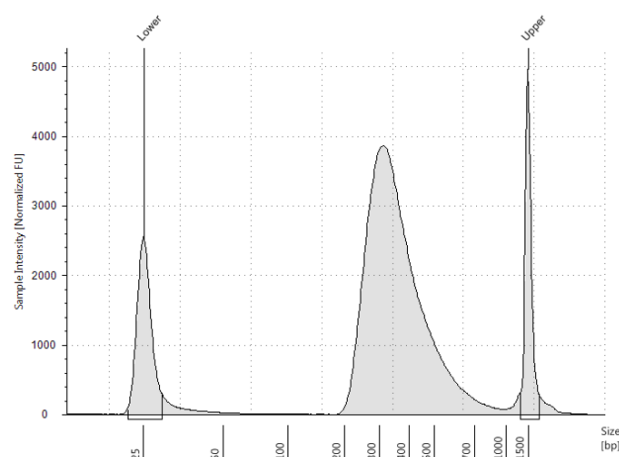
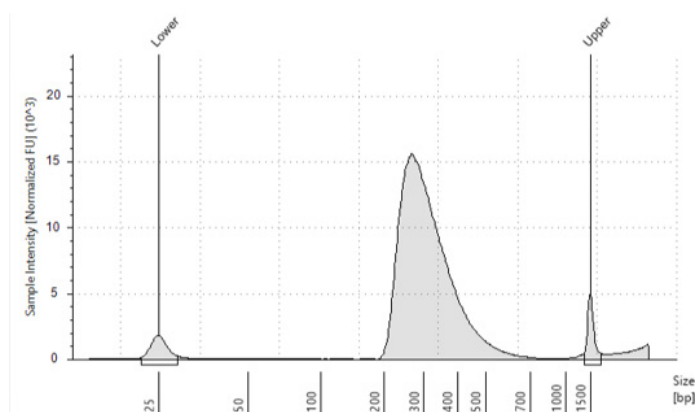
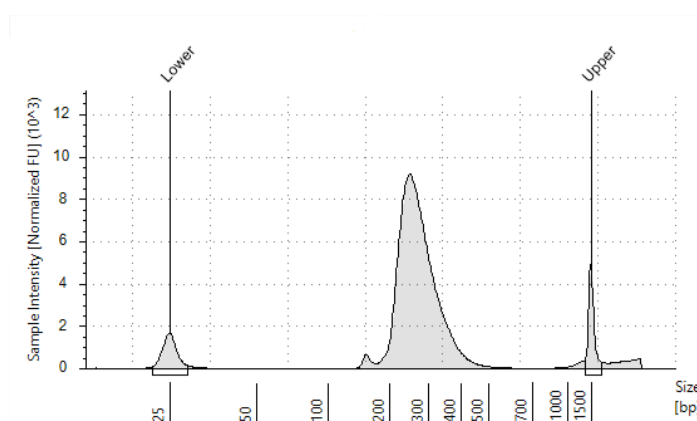

Figure 8 Pre-capture library prepared from a high-quality gDNA sample analyzed using a D1000 ScreenTape assay.
Figure 9 Pre-capture library prepared from a typical FFPE gDNA sample analyzed using a D1000 ScreenTape assay.
Figure 10 Pre-capture library prepared from a low-quality FFPE gDNA sample analyzed using a D1000 ScreenTape assay.
- 16 Verify that the electropherogram shows the expected DNA fragment size peak position (see Table 54 for guidelines). Sample electropherograms are shown in Figure 8 (library prepared from high-quality DNA), Figure 9 (library prepared from medium-quality FFPE DNA), and Figure 10 (library prepared from low-quality FFPE DNA).
The appearance of an additional low molecular weight peak indicates the presence of adaptor-dimers in the library. It is acceptable to proceed to target enrichment with library samples for which adaptor-dimers are observed in the electropherogram at low abundance, similar to that seen in the example electropherogram in Figure 10. See Troubleshooting information on page 162 for additional considerations.
Using manual preparation of the analytical sample plate, you can analyze the DNA samples on Agilent 2100 BioAnalyzer, Agilent 5200 Fragment Analyzer, or Agilent 4200/4150 TapeStation. Electropherograms obtained using one of these other analysis platforms are expected to show fragment size profiles similar to those shown for the Agilent 4200 TapeStation (see Figure 8 through Figure 10). Table 55. Verify that the electropherogram shows the expected DNA fragment size peak position (see Table 54 for guidelines). Table 55 includes links to assay instruction.